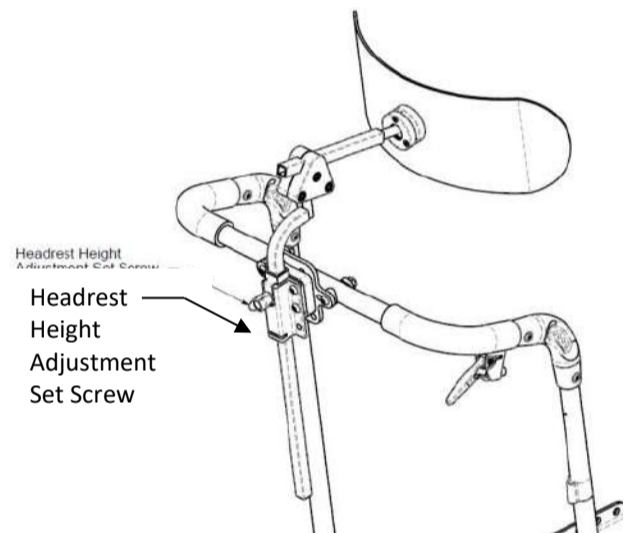

Figure 14.43: *Headrest*
1. Loosen the “Headrest Height Adjustment Set Screw” and slide the head rest assembly upwards until it is free of the chair (see Figure 14.43).